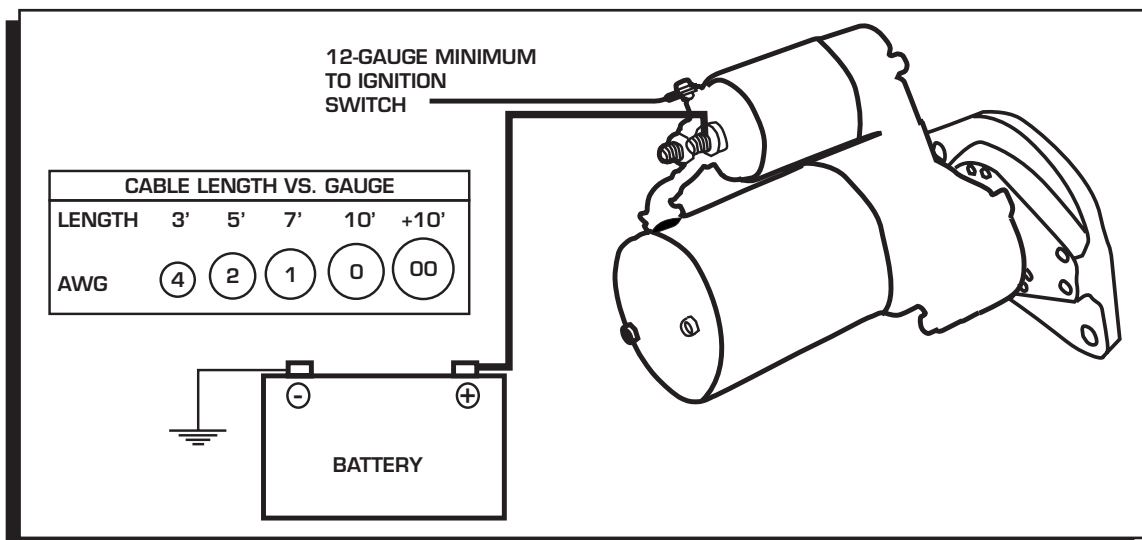
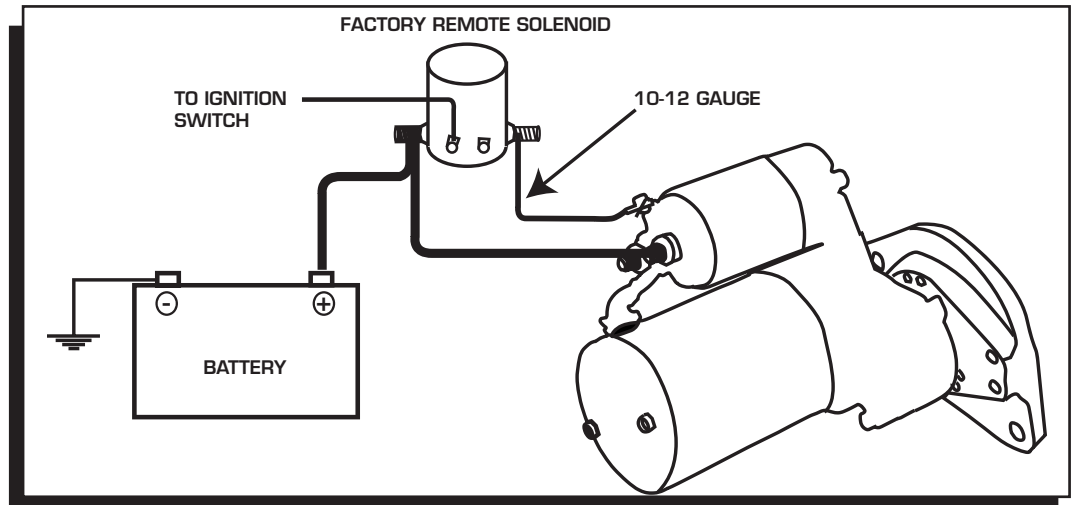

Figure 4 Wiring the DynaForce High Speed Starter.
Figure 5 Wiring to Incorporate an External Solenoid.
5. The switch wire that connects to the solenoid should be at least 12-gauge (Figure 4). For alternative wiring to incorporate the factory remote solenoid, See Figure 5.
The chart in Figure 5 shows the recommended sizes. Be sure to route the wire away from the exhaust and moving parts of the engine.